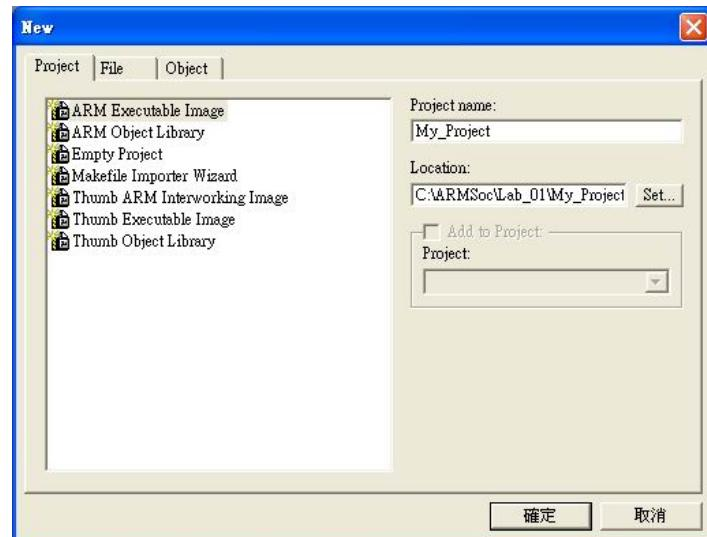

Figure 5. Setting project name and location path.
4. Set the directory where you want to save the project in the **Location** field or click the **Set...** button (a **Create New Project** dialog is displayed) next to the **Location** field to navigate to the directory **c:\ARMSoC\Lab\_01\**. Enter a project name, for example **My\_Project**. A result is shown in Figure 5.